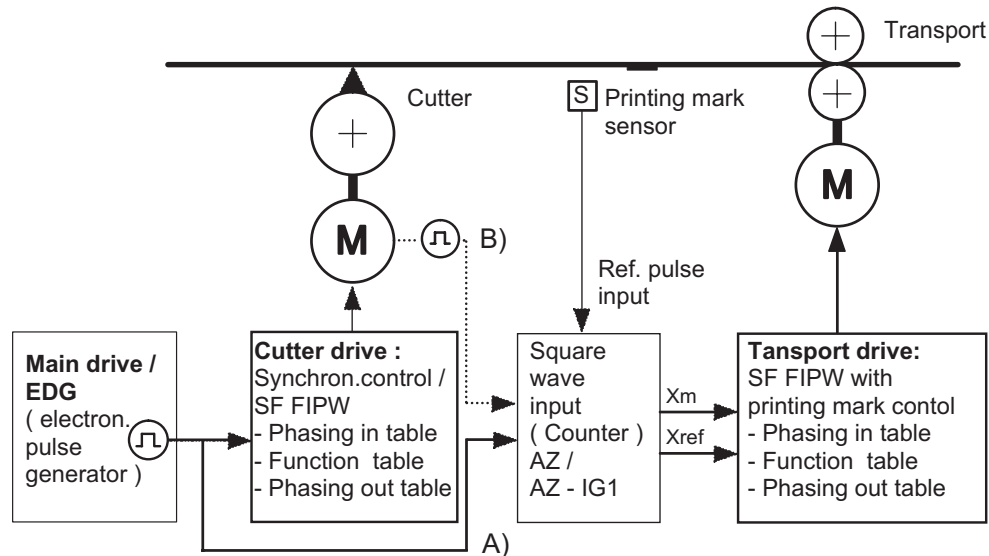
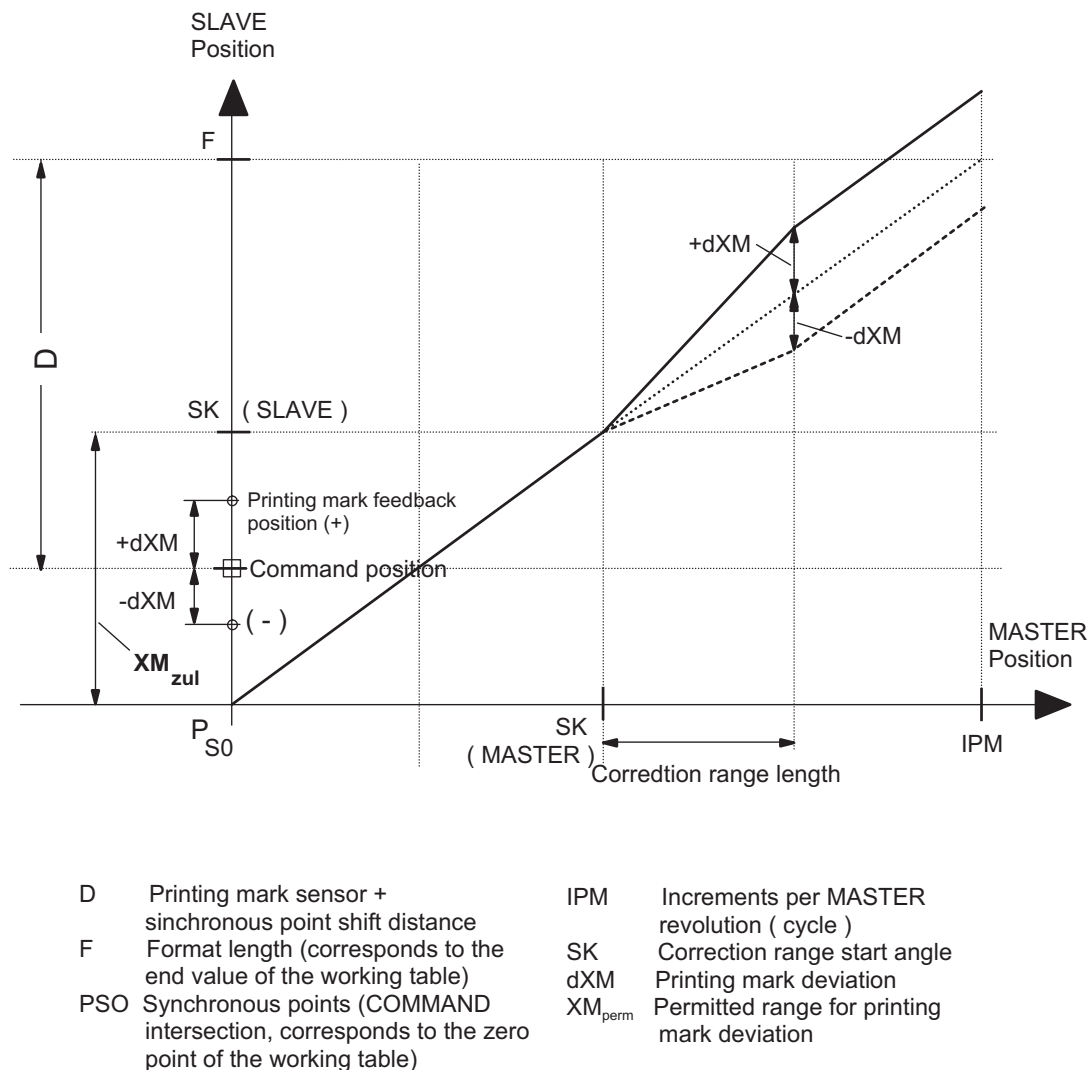

Figure 13: Possible drive arrangement for printing mark control
Figure 15: Principle of printing mark control
Figure 13 shows a possible arrangement with printing mark control in which three drives participate:
In printing mark control according to Figure 13, the feed of a transport drive is corrected with the aid of a printing mark on the feed material, in order to be able to cut despite deviations in the material length at a point defined by the printing mark (synchronous point; cf. Figure 15 or Figure 16).
- The drive (e.g. transport drive according to Figure 13) is controlled in the distance operating mode "cyclic table processing" (SFKMD-BA = 2) or "clocking in/out" (SFKMD-BA = 98) with integrated printing mark control (SFKMD fct, Bit0 = 1) (cf. Section 3.2.2.3). through the SF FIPW.
- The master axis of the transport drive is either a main drive (Figure 13, A) or the blade drive (Figure 13, B).
- On deviations of the pulse from the defined angle, the output value of the SF FIPW is changed by addition of a correction value and thus the control of the transport conveyor is corrected (cf. Figure 15: Principle of the printing mark control).
Before SF commanding "Start" the participating drives according to Figure 13 must be brought into a defined starting position. Here it is possible to proceed as follows: